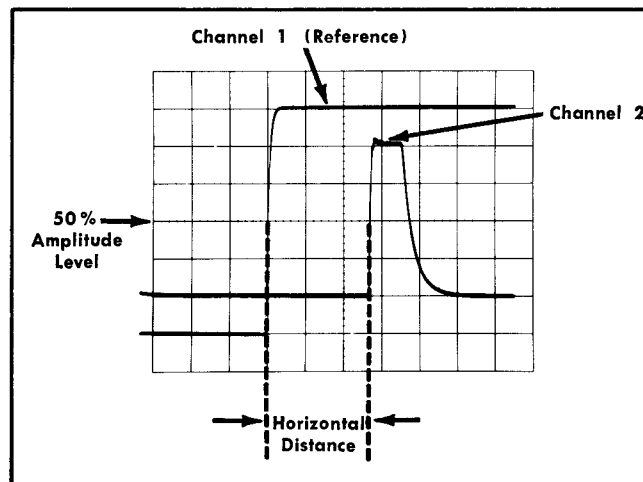

Fig. 2-3. Measuring time delay between pulses.
10. Measure the exact horizontal distance between the reference waveform and the Channel 2 waveform (see Fig. 2-3).
For example, assume that the time/division switch is set to 5 microseconds, the  $5\times$  magnifier is on and the horizontal distance between waveforms is 2.7 divisions (see Fig. 2-3).